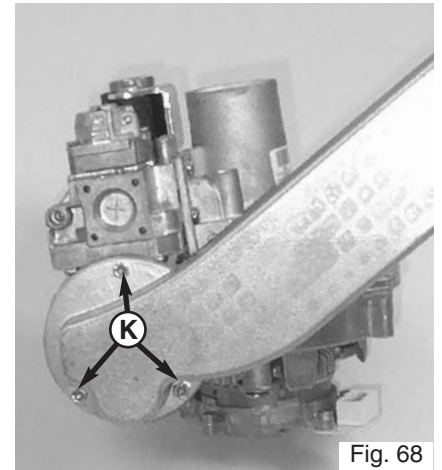

Fig. 68
4. Unscrew the three screws K on the air/gas pipe and remove (Fig. 68);